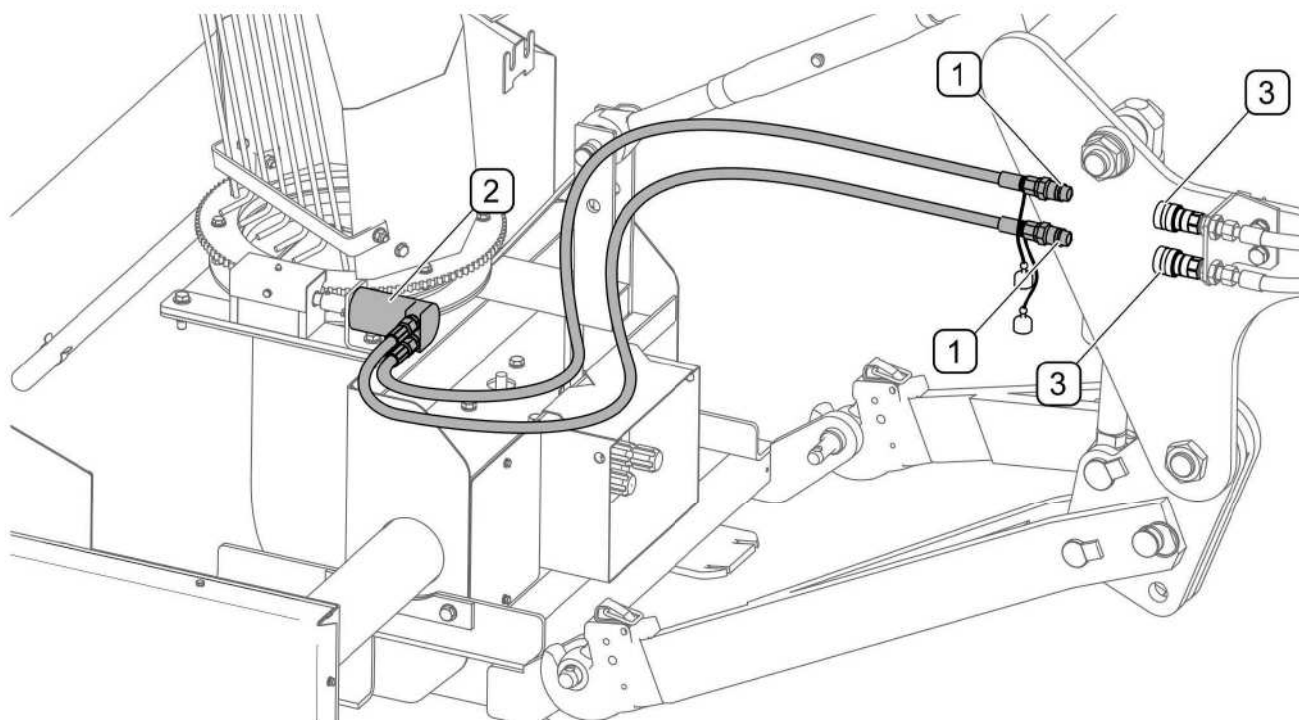

FIG. 4.4 Connecting conduits to discharge chute
To allow rotation of the discharge chute with hydraulic motor (2), connect the hydraulic connector plugs (1) to sockets (3) the tractor hydraulic system (FIG. 4.4). It is recommended that discharge chute rotation hydraulic plugs are connected to the hydraulic system allowing changing the hydraulic oil flow direction.